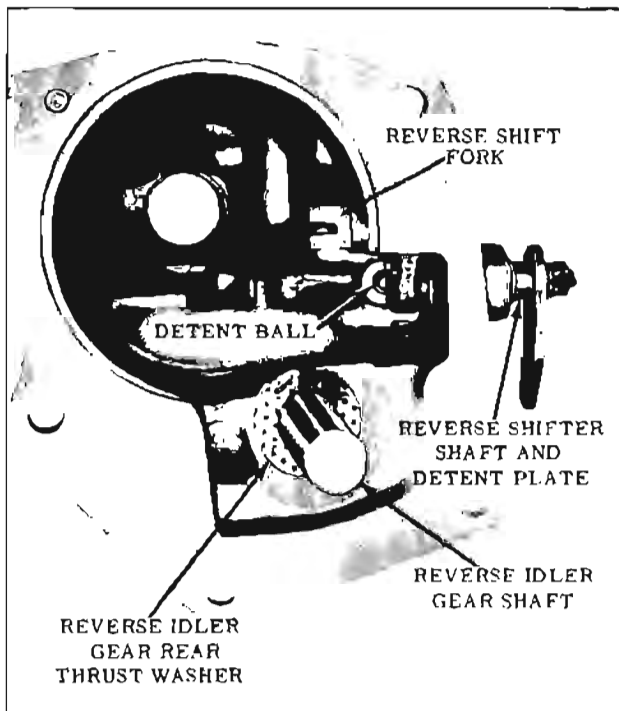

Fig. 11-253 Assembling Extension Housing
4. Place the detent ball on the spring and while holding the ball down with a small screwdriver, push the shift shaft into place and turn, so the ball can drop into place in the detent plate. (Fig. 11-253)
2. Check the extension housing to be sure the detent ball is in position and the shifter shaft is pulled out until the "O" ring is visible. The "O" ring must be visible so the shift fork will clear the flange on the reverse gear. (Fig. 11-253)